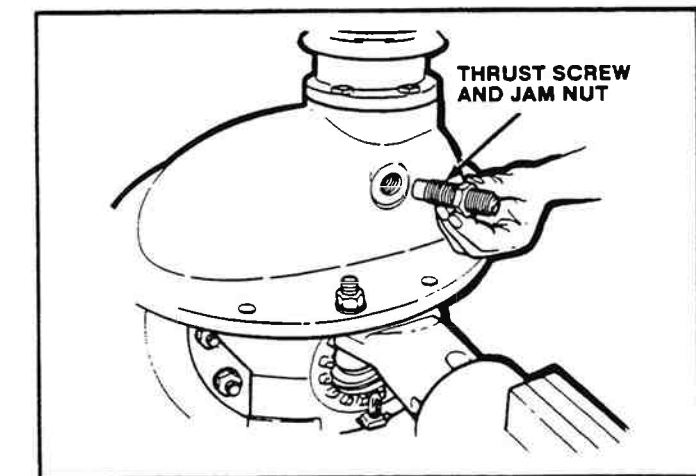

Figure 2-98. Installing Thrust Screw.
1. Install the jam nut on the thrust screw, one half the distance between both ends (Figure 2-98).
2. Install the thrust screw into the carrier until the screw stops against the ring gear (Figure 2-98).